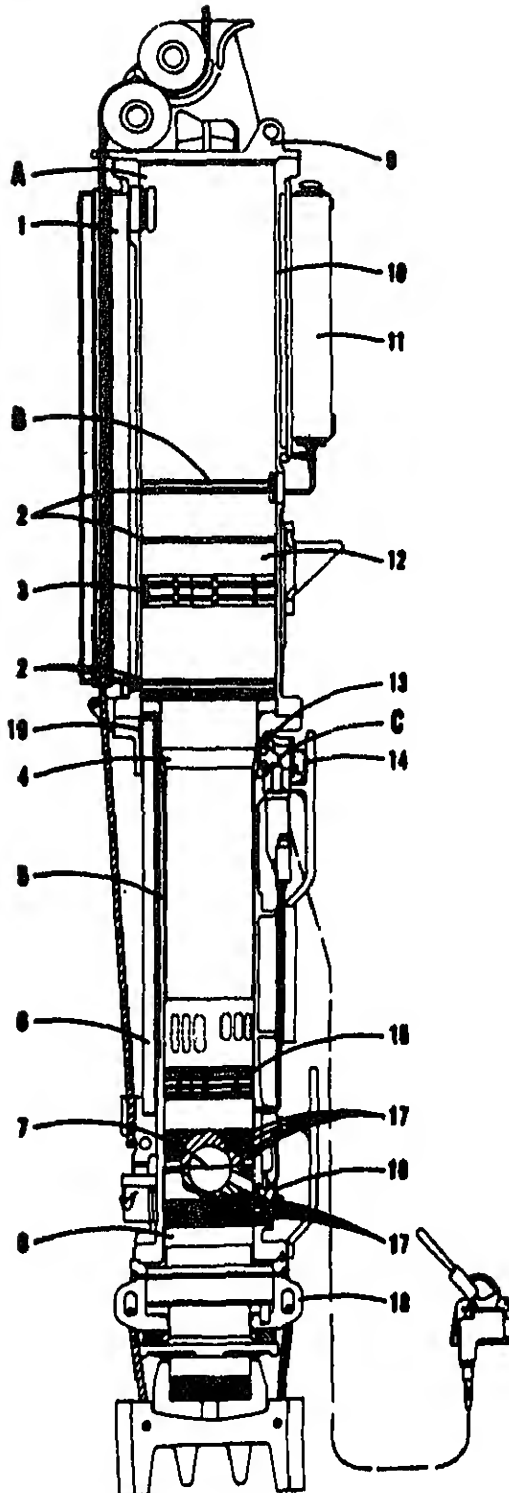
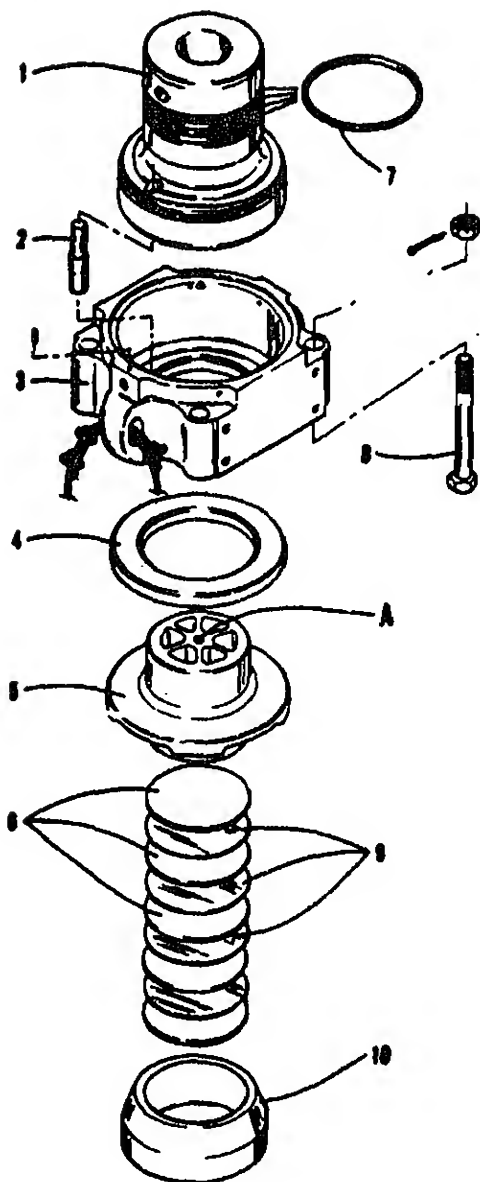

FIG. 11-1
FIG. 11-3
CYLINDER HEAD Figure 11-1
The cylinder is manufactured in two parts, the upper cylinder and lower cylinder Fig. 11-1. An area which is called the safety space (A), is located between the cylinder head and the bounce chamber tank ports. This area keeps the ram from striking the cylinder head as total compression would have to be overcome for it to do so. The entire cylinder will noticeably begin to lift, or rack, when the ram enters this safety space. The output energy rating device, Section 8, can be used to determine the condition of the cylinder walls, compression rings, and air leaks.
The ram, Fig. 11-1 is a free piston and is the means by which the work output of the Hammer is delivered to the pile thru the anvil and driving head.
The bottom of the ram has four compression rings, and a wear ring, Fig. 11-1, which guide the lower portion of the ram in the lower cylinder. This wear ring is located above the compression rings. The condition of the sight check grooves can be observed through the intake-exhaust ports. As explained earlier, should any of the ring grooves wear smooth, the wear ring should be replaced.
- Install lifting eye bolt in ram at (B), Fig. 11-1, and lock with jam nut. (To enable easier eyebolt installation ram can be raised using lifting device).
The push rod bearing Fig. 11-1, should be inspected for wear and replaced if necessary whenever the ram is removed. (Refer to PUSH ROD BEARING).
Use the following procedure when field installation of wear rings, Fig. 11-1, become necessary:
To replace the push rod bearing Fig. 11-1, it is necessary to separate the upper and lower cylinders. Use a 2" dia. x 12" long rod for removal. Using a piece of wood to avoid damaging bushing drive it into place.
The anvil Fig. 11-1 is located at the bottom of the cylinder and relays the energy, delivered to it, from the ram to the pile. As the ram descends, closing intake-exhaust ports, it compresses air between it and the anvil. The air compression preloads the anvil and pile and is contained between the ram and anvil by means of compression rings located above the flange of the anvil, Fig. 11-3.
The anvil moves up and down 1 3/8" inside the anvil retainer, Fig. 11-3, and has its movement limited by a flange which is part of the anvil casting. An alignment pin locates the anvil with the anvil retainer to prevent the anvil from turning. The downward travel of the anvil is curtailed by a shoulder which is machined in the anvil retainer. The anvil retainer is located with the lower cylinder by a dowel pin and is held in place by means of anvil retainer bolts.
- (b) Remove nuts from top of anvil retainer bolts, Fig. 11-3.
The recoil dampener Fig. 11-3 is of a material that absorbs the shock loadings of the cylinder. It rides on the upper portion of the cushion adapter cap, just below the anvil retainer assembly. The purpose of the recoil dampener is to minimize the effect of shock caused by pile or soil rebound.
The adapter assembly used in conjunction with the driving head consists of a male and female unit. Refer to Figs. 11-3 and 11-4. Five plastic and four aluminum discs are located in this unit. The plastic and aluminum discs are to be alternated, starting out with a plastic disc. The aluminum discs act as a fire wall between the plastic, as high temperatures are generated when driving piling. These temperatures would otherwise burn up the plastic. After proper assembly, the adapter is placed between the anvil recess and the driving head.